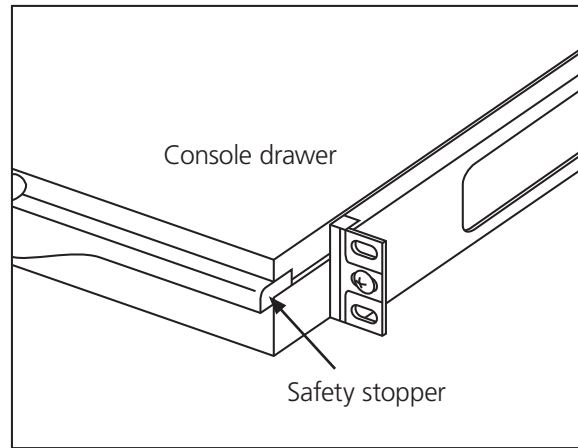

Figure 3-6. Locating and removing the safety stopper.
3. Remove the safety stopper from the console drawer (see Figure 3-6). The safety stopper keeps the drawer from sliding out during transportation.